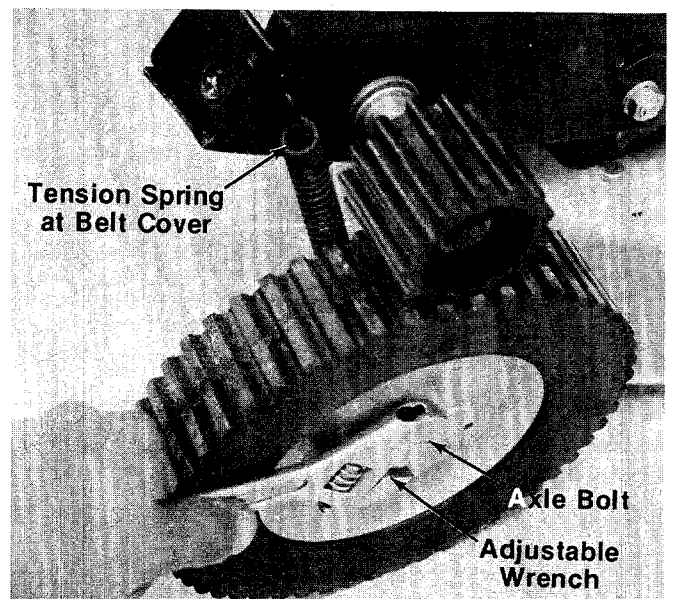

FIGURE 22.
2. Remove both front wheels by removing the axle bolts. An adjustable wrench is required. See figure 22.
3. Unhook the tension spring at each front wheel from the cover support bracket and belt cover. See figure 22.